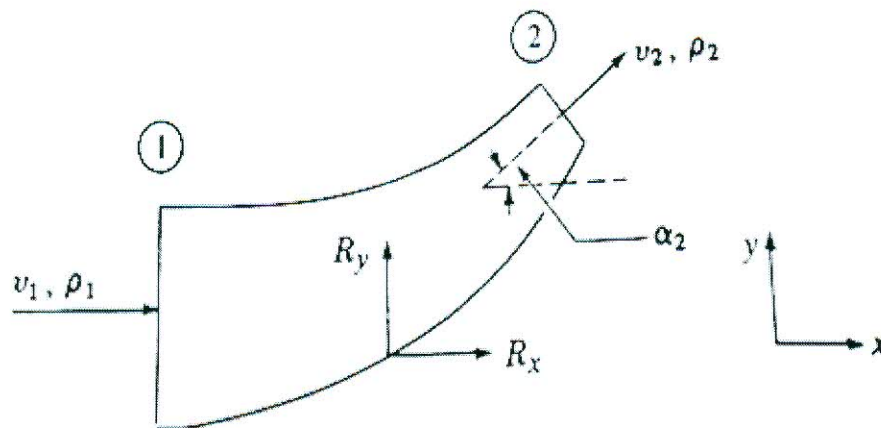

Figure 3 - Flow through a reducing bend
2. [a] Fluid is flowing at steady state through a reducing pipe bend as shown in Figure 3. Turbulent flow will be assumed with frictional forces are negligible. The volumetric flow rate of the liquid and the pressure, p_2 , at point 2 are known as well as the pipe diameters at both ends. Derive the equations to calculate the forces on the bend, R . Assume the density, ρ , is constant.